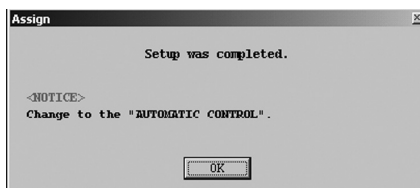

Fig.23
- ⑤ When the previous settings are replaced with the new settings just entered in response to clicking on "OK", a message box as shown in Fig. 23 appears. Clicking on "OK" button at this point completes the setup.